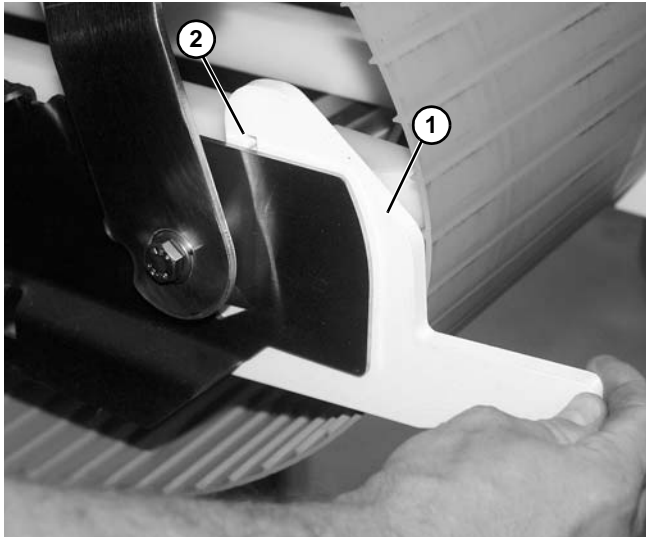
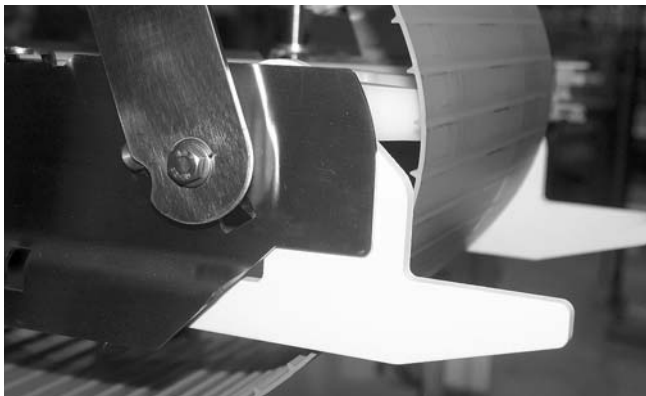

Figure 46
Figure 47
3. Push down to fully seat return guide (Figure 46, item 1) so slotted end (Figure 46, item 2) is fully seated onto conveyor frame rail (Figure 47).